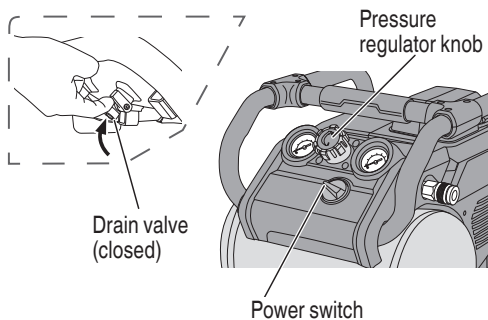

Fig. 13
- Ensure the drain valve is closed (Fig. 13).
- Ensure the power switch is in the OFF (O) position and the battery is removed.
- Ensure the pressure regulator knob is turned fully counterclockwise (Fig. 13).